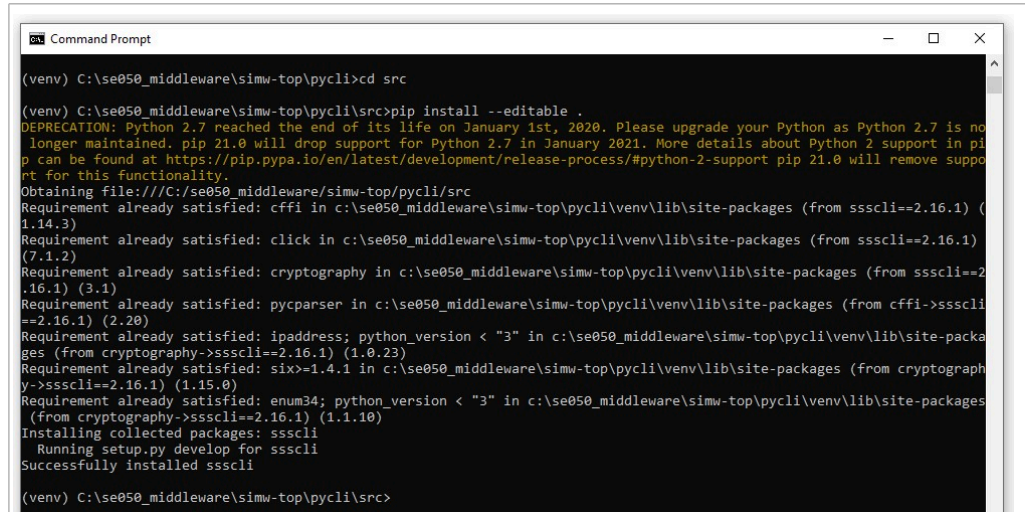

Figure 34. Install pycli
- Go to `simw-top\pycli\src` folder and install the `pycli` tool, as shown in Figure 34: